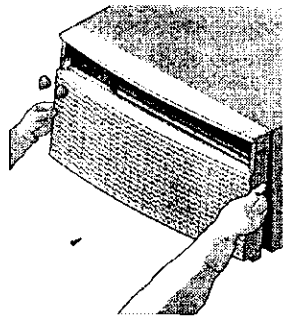
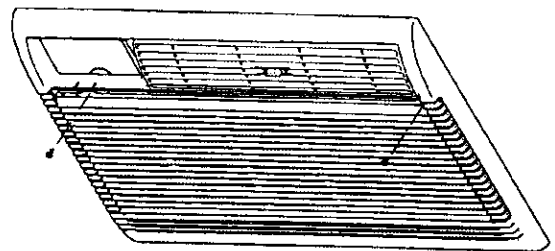

FIG. 1
FIG. 2
### Front Installation - Some Side Air Discharge Models (FIG. 1)
- Install front retaining screw(s) at the bottom of the front (Fig. 1), or behind the filter handle (Fig. 2).
- Some models, push the vent control handle to the OFF position. Lift the filter straight up and out (Figure 1).